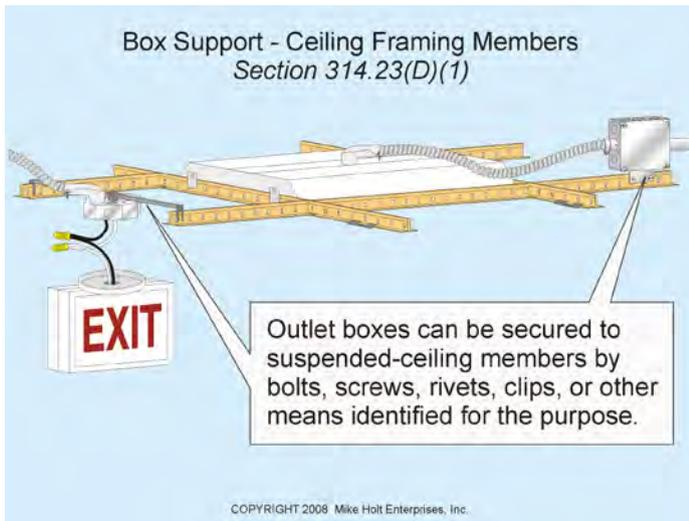

Figure 314-14
(1) Ceiling-Framing Members. An outlet box can be secured to suspended-ceiling framing members by bolts, screws, rivets, clips, or other means identified for the suspended-ceiling framing member(s). **Figure 314-14**